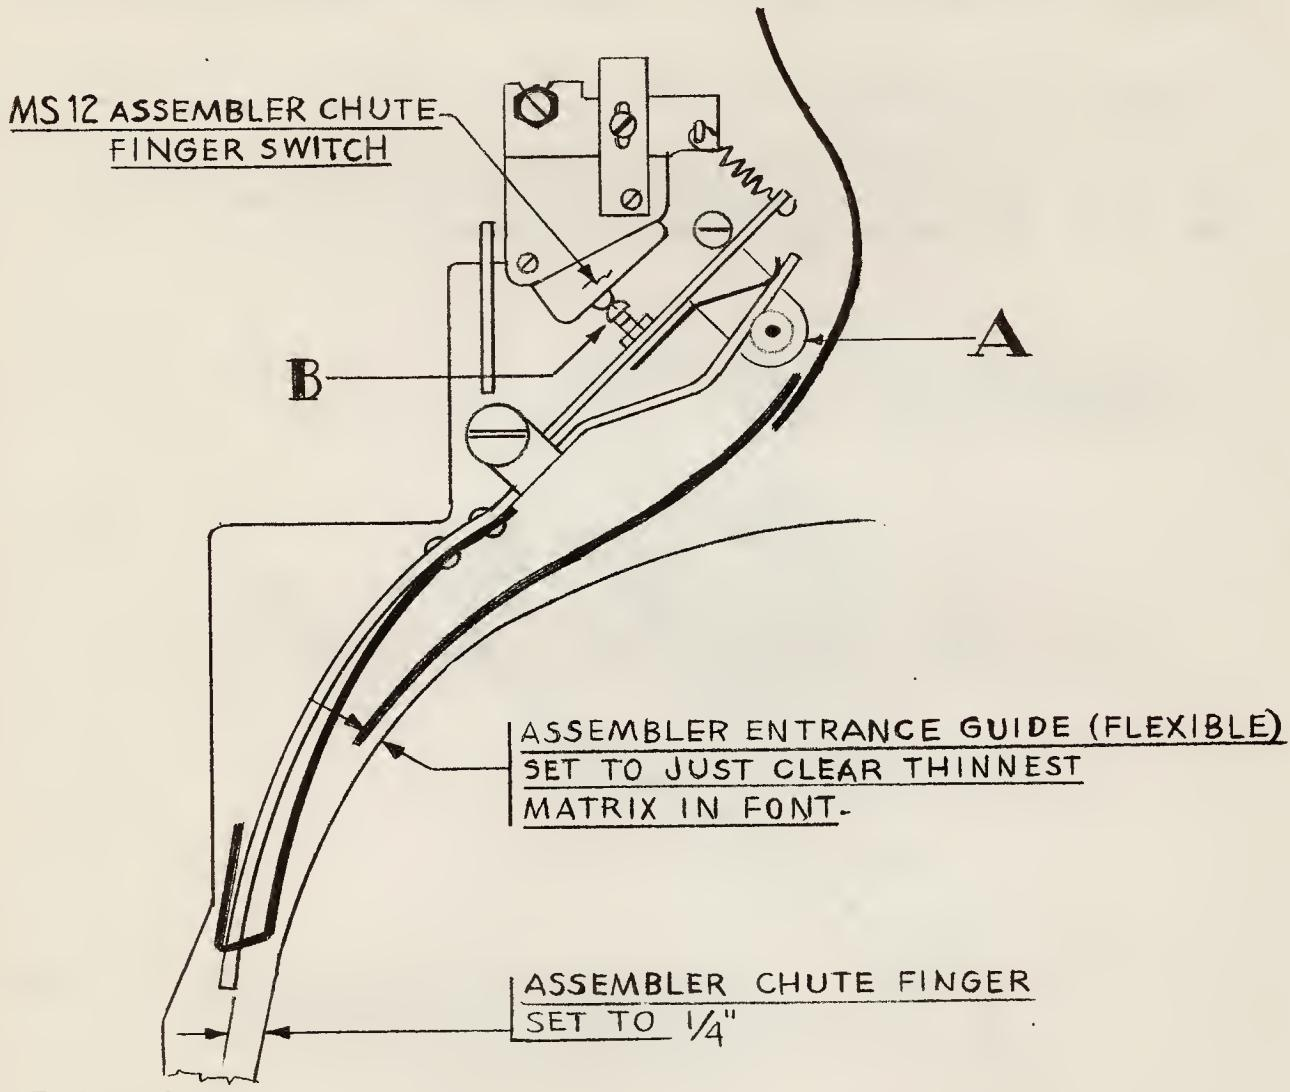

FIG. 6A
3. The MS 12 Assembler Chute Finger Switch should be adjusted by screw "B", so that when the assembler chute finger is set correctly as outlined in (2), MS 12 switch should just be actuated.
\* (FF) Assembler Chute Finger (Universal) (Fig. 6A)